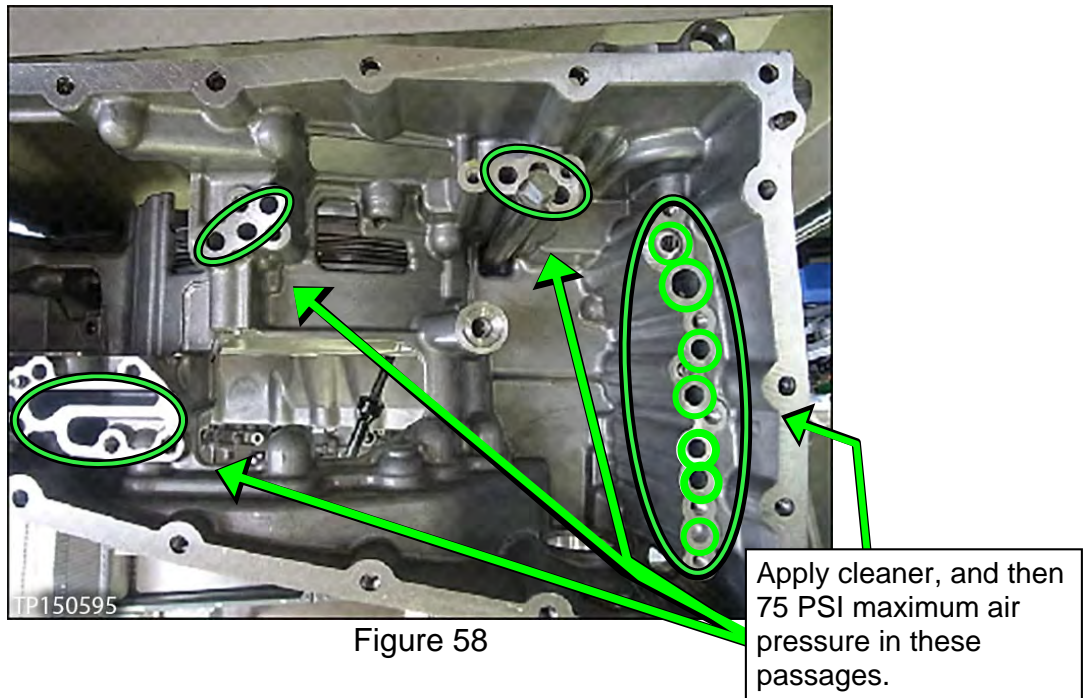

Figure 58
38. Use brake cleaner in all oil passages of the CVT case where shown in Figure 58.